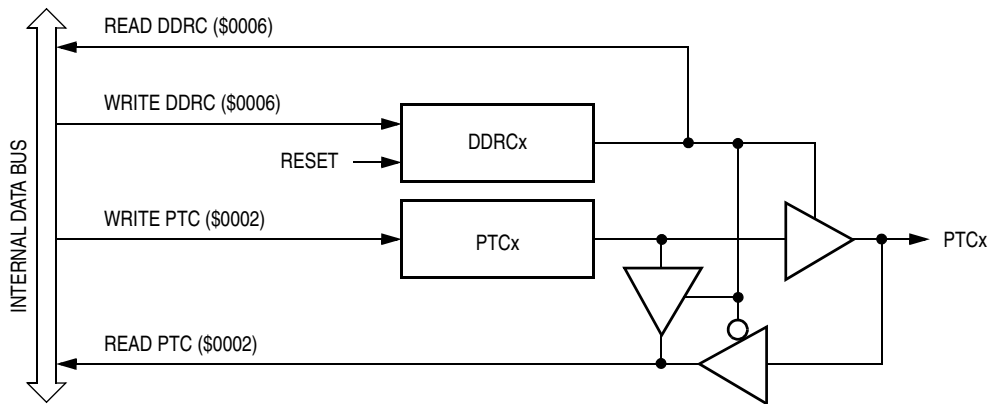

**Figure 12-10. Port C I/O Circuit**
**Figure 12-10** shows the port C I/O logic.